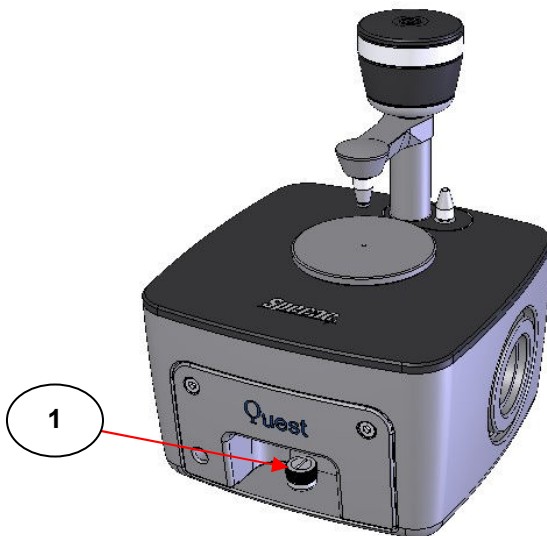

Fig 4. Quest ATR Accessory – Central Fixing Front Thumbscrew
The upper surface of the Benchmark™ baseplate P/N 549-456 shows the arrangement of fixing pillars and location pins for attachment to the underside of the optical unit of the Quest ATR Accessory. An M3 x 25mm slot head fixing screw (22) passes centrally through the rear support pillar (23) for fixing into a corresponding screw location hole on the underside of the optical unit of the Quest ATR Accessory. The standard thumbscrew fixing (1) (see Fig 4), at the front of the optical unit of the Quest ATR accessory is used to affix to the central front pillar (24) of the Benchmark™ baseplate.